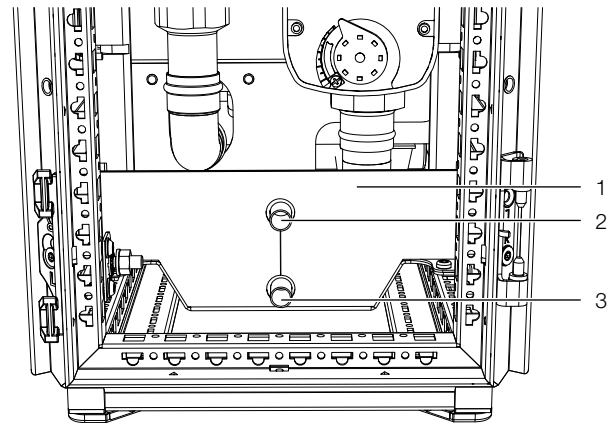

Fig. 91: Condensate discharge
Any condensate which may develop is collected in the base tray (fig. 91, item 1) in the water module of the Liquid Cooling Package.
The Liquid Cooling Package is additionally equipped with a condensate discharge (fig. 91, item 3 or item 2) via which the condensate is pressurelessly routed out of the Liquid Cooling Package.